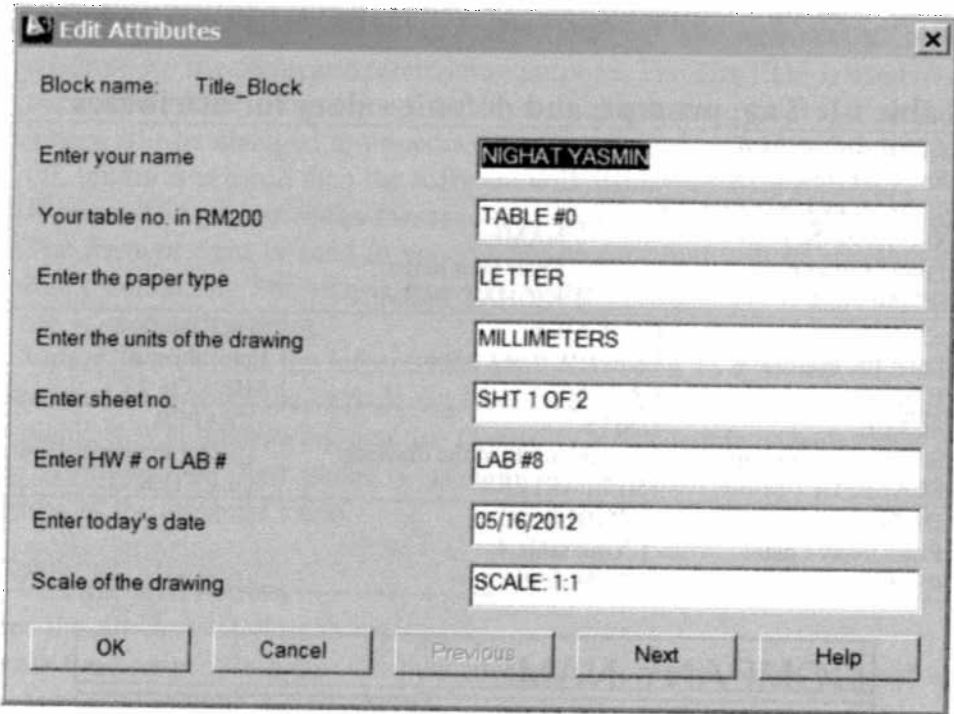

Figure 6-7a
3. This will close the *Block Definition* dialog box and open the *Edit Attributes* dialog box, Figure 6-7a. This box can display at most eight attributes; therefore, use the *Next* button to see the remaining attributes.